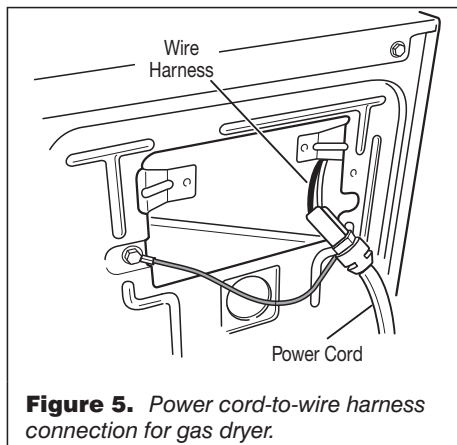
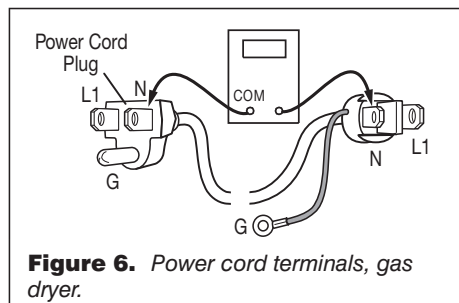

Figure 5. Power cord-to-wire harness connection for gas dryer.
Figure 6. Power cord terminals, gas dryer.
3. Check that the power cord is firmly connected to the dryer's wire harness. See figure 5.
5. With an ohmmeter, check for continuity between the neutral (N) terminal of the plug and P8-3 (white wire) on the machine control board. The left-hand side of figure 6 shows the position of the neutral terminal (N) on the power cord plug. Also see figure 17, page 11.
→ If there is no continuity, disconnect the white wire of the harness from the power cord at the location illustrated in figure 5. Test the continuity of the power cord neutral wire as illustrated in figure 6. If an open circuit is found, replace the power cord. Otherwise, go to step 6.
→ If there is no continuity, check the continuity of the power cord in a similar way to that illustrated in figure 6, but for power cord's L1 wire.